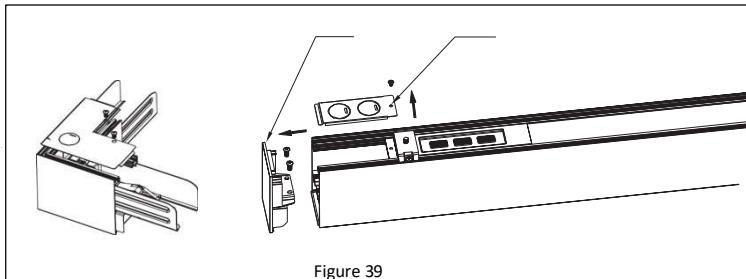

Figure 39
1. Remove the upper cover from both the “L” connector and the fixture. Then remove the end cap from the fixture. *See Figure 39.*